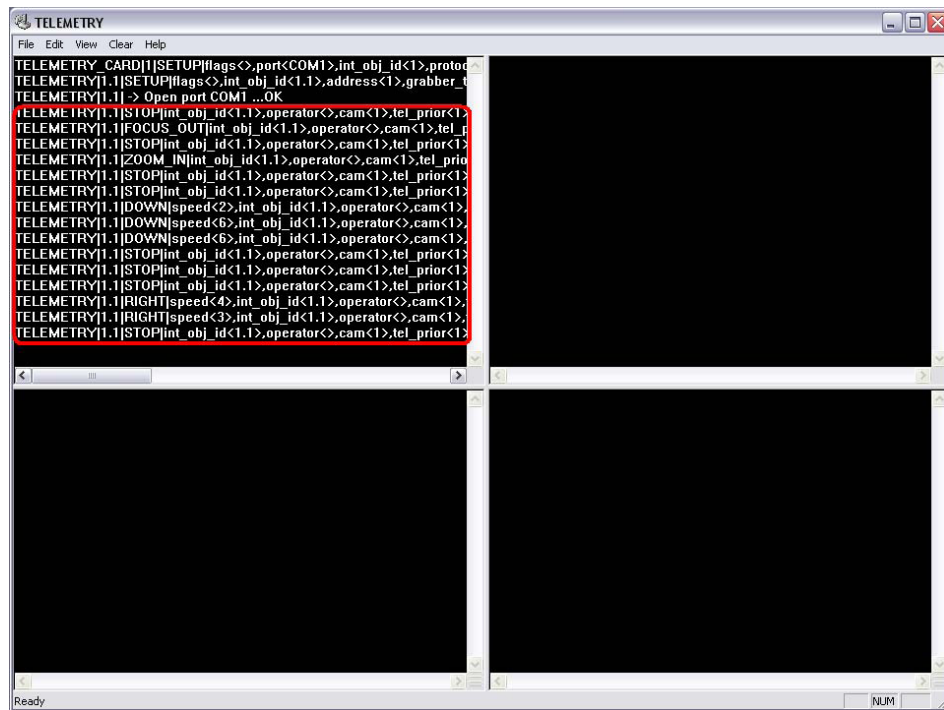

Figure 3.4-16 Telemetry module debug window after the performance of joystick commands
9. If the joystick operates properly, the relevant commands are displayed in the debug window (Figure 3.4-16).